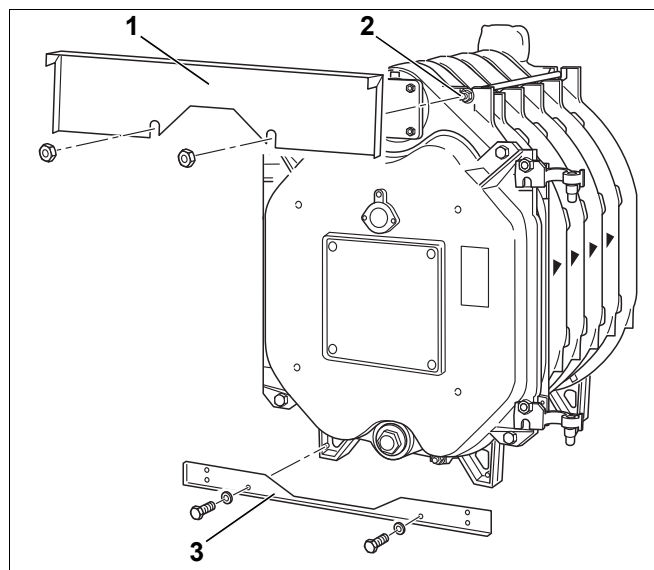

Fig. 30 Installation of the front support brackets
- At the boiler front screw one further nut onto each tie-bars (Fig. 30, [2]).
- Insert the cross support bracket at the front on top of the boiler (Fig. 30, [1]) between the first and the second nut of the tie bars and secure on the cast lugs.
- Secure the cross support bracket at the lower front (Fig. 30, [3]) with two screws on the boiler section feet of the front section.